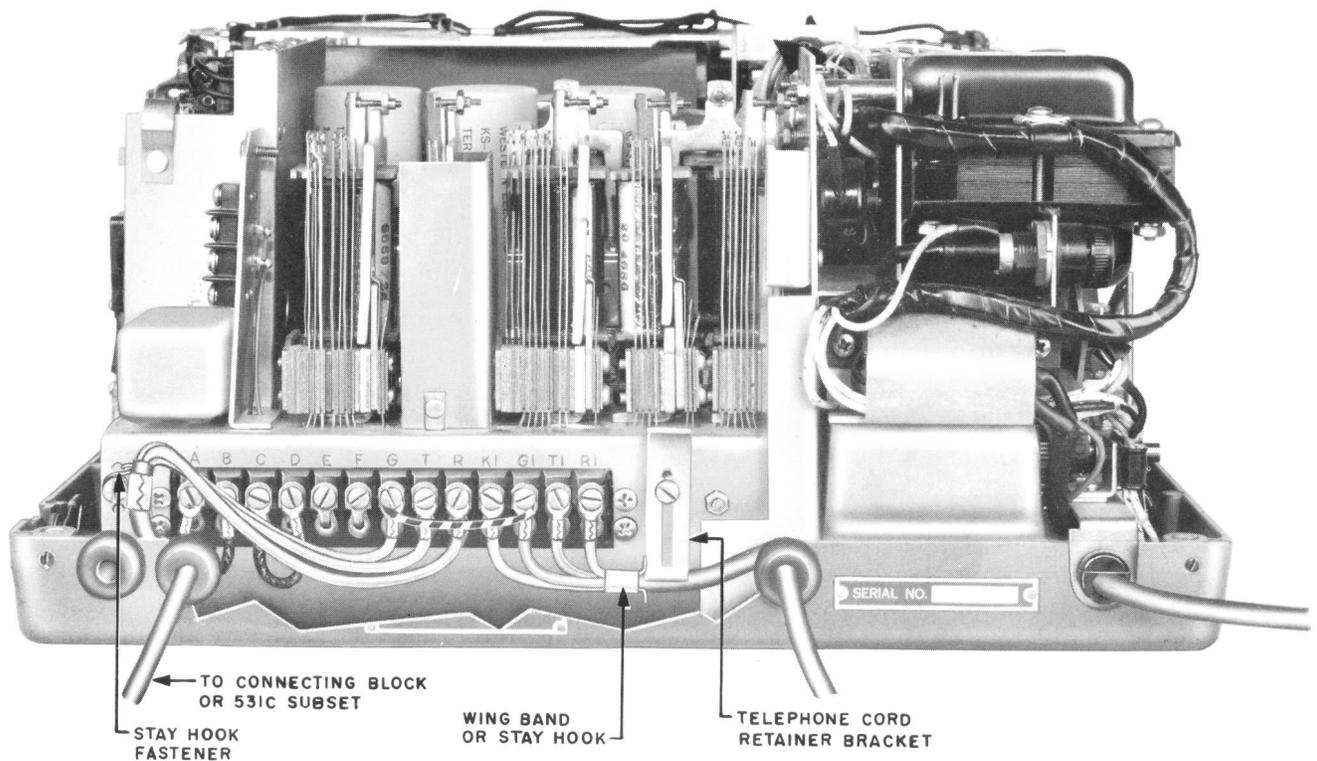

Fig. 4 — 1-Type Telephone Answering Set Showing Mounting, Cord Fastening, and Termination
3.06 The associated telephone set will require a 4-conductor mounting cord terminated as shown in the connection section of this practice. Insert cord through right rubber grommet and fasten to cord retainer bracket. Secure cord with stay-hook mounting screw provided and terminate on terminal strip TS1 (see Fig. 4).
3.07 Insert a suitable mounting cord through the middle rubber grommet. Secure it with stay-hook mounting screw provided and terminate on terminal strip TS1 (see Fig. 4).